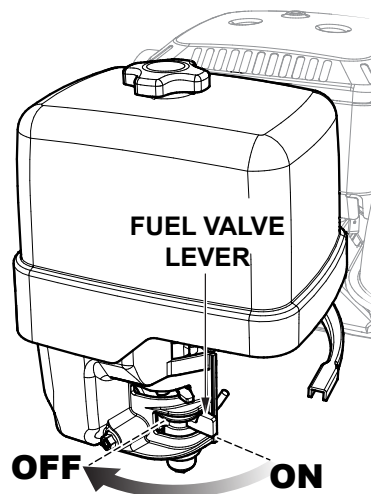

Figure 49. Fuel Valve Lever (Closed)
4. Place the fuel valve lever in the **CLOSED** position (Figure 49).